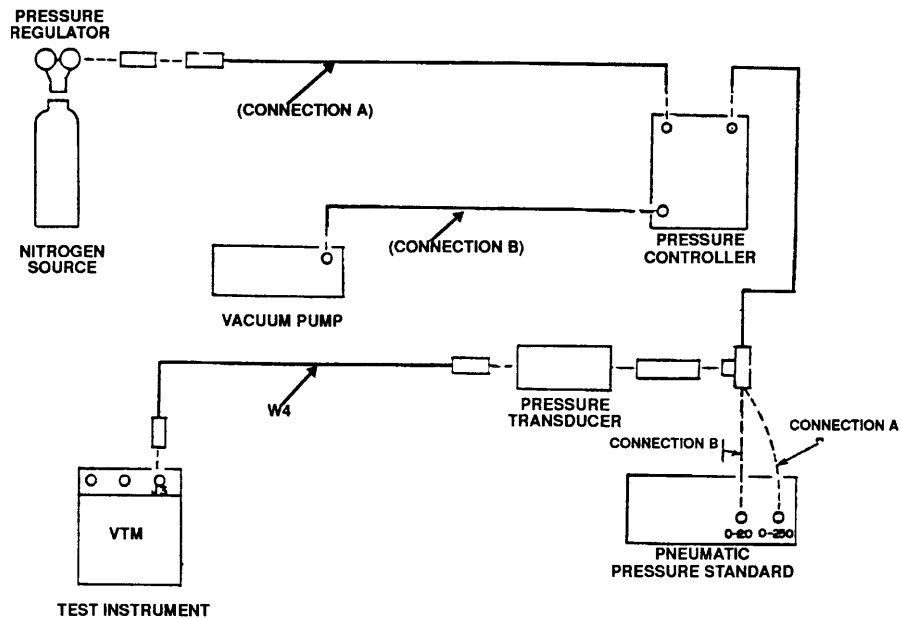

Figure 6. Pressure and vacuum (25 psi) - equipment setup.
- (5) Wait for offset value to appear on display. Offset value will be between -150 and +150.
- (6) Press and release **TEST** pushbutton.
- (7) Operate hydraulic pressure standard to apply 1000 psi. VTM will indicate between 960 and 1040.
- (8) Operate hydraulic pressure standard to apply 200 psi. VTM will indicate between 180 and 220.
- (9) Connect equipment as shown in CONNECTION A (fig. 6), using pressure transducer TK22, -30 to +25 psig.
- (10) Set **TEST SELECT** switches to **49**.
(1) To transfer control to VTM, enter **50** on **SET COM** and press **GO** key.
(2) Connect equipment as shown in CONNECTION B (fig. 6), using pressure transducer TK22 -30 to +25 psig.
(3) Set **TEST SELECT** switches to **45**.
(4) Operate vacuum pump and adjust pressure controller and pneumatic pressure standard controls for 18 inHg indication and back to atmospheric pressure three times.
(5) Stop vacuum pump and, with pneumatic pressure standard indicating atmospheric pressure, press and hold **TEST** pushbutton until **CAL** appears on display. Press and release **TEST** pushbutton.
(6) Wait for offset value to appear on display. Offset value will be between -4.5 and +4.5.
(7) Press and release **TEST** pushbutton.
(8) Operate vacuum pump and adjust necessary controls for 18.00 inHg indication on pneumatic pressure standard. VTM will display between 16.9 and 19.1.